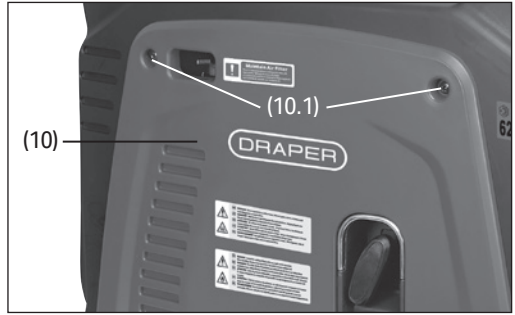

Fig. 15
2. Unscrew and remove the left side maintenance cover (10). (Fig. 15).